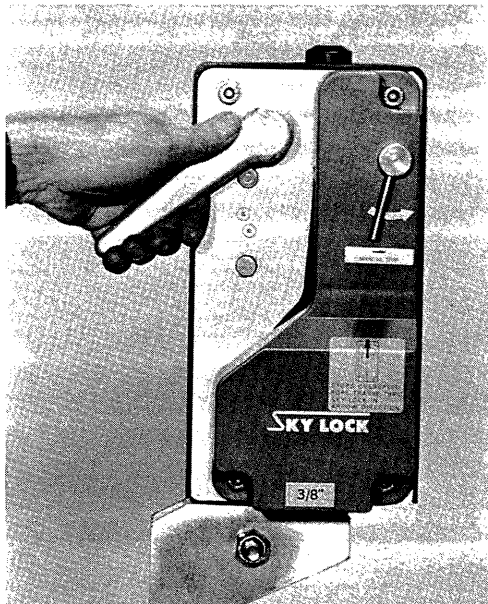

Figure 5.3
1. Make certain Sky Lock brake is properly set (See Figure 5.3.)